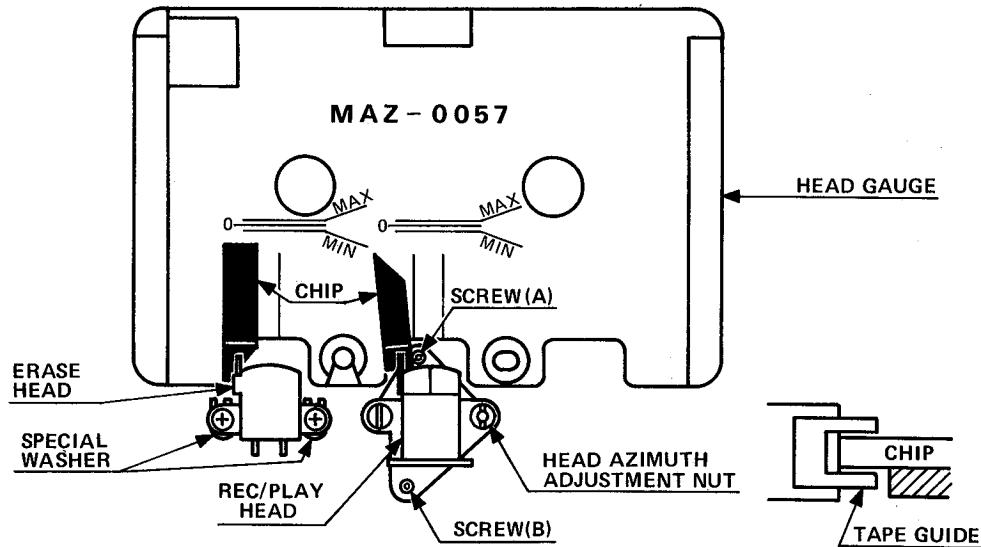

Fig. 1
2. Depress playback button and, adjusting the hexagon screws (A) and (B) to the same direction and turns, set the head so as the adjustment chip attached to the gauge not to touch the tape guide of the head as shown in Fig. 1.
2. Depress playback button and adjust the head hight with special washer under the head so as the adjustment chip attached to the head gauge not to touch the tape guide as shown in Fig. 1.